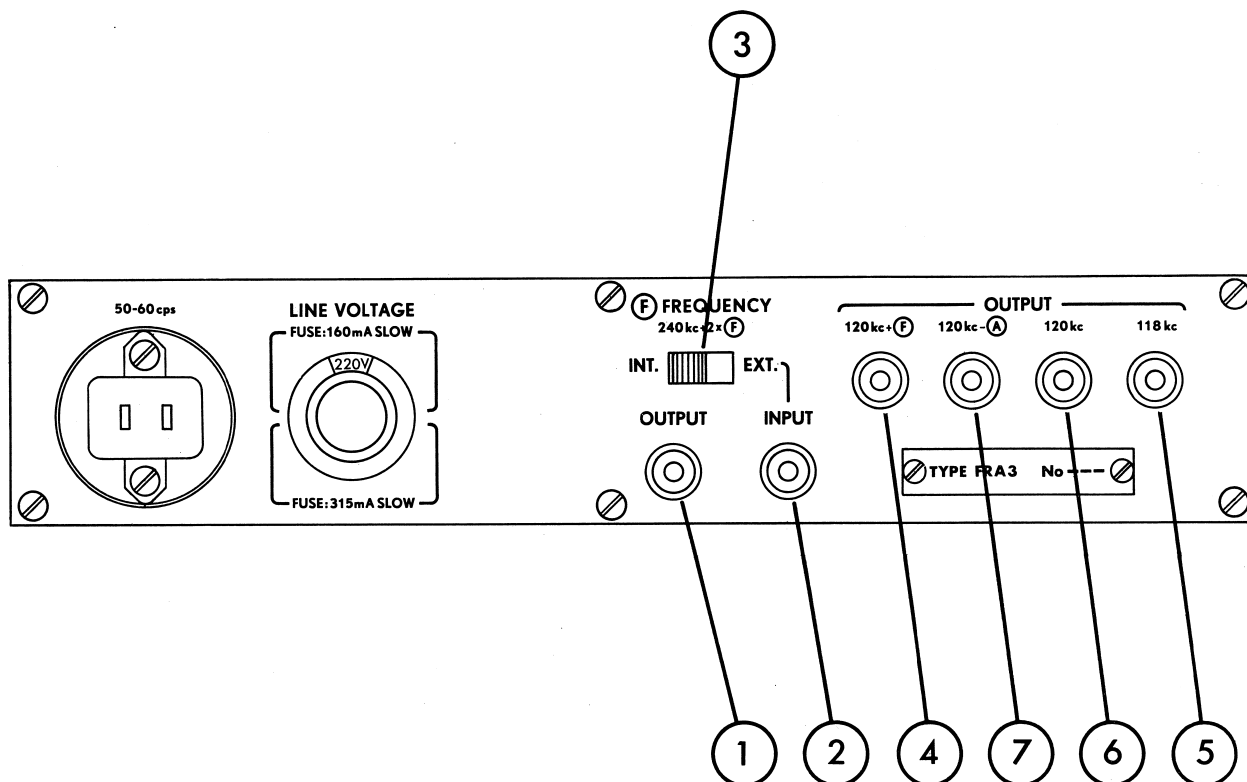

Fig.8. Rear panel of the Wave Analyzer, type FRA3.
The six rear panel terminals are all of the BNC type (See Fig.8). The terminal, 240 kc + 2 F OUTPUT (1), always carries the F-oscillator voltage independently of switch settings. About 3 V rms are available from a 25  $\Omega$  source.
As seen in Fig.8, all three are located on the rear of the instrument. Use 1 160 mA slow-blow fuse for a line voltage between 200 and 240 volts and a 315 mA for 110 - 127 volts operation. The Wave Analyzer, type FRA3, is set to a line voltage of 220 volts when leaving the factory and is furnished with 2 corresponding fuses.